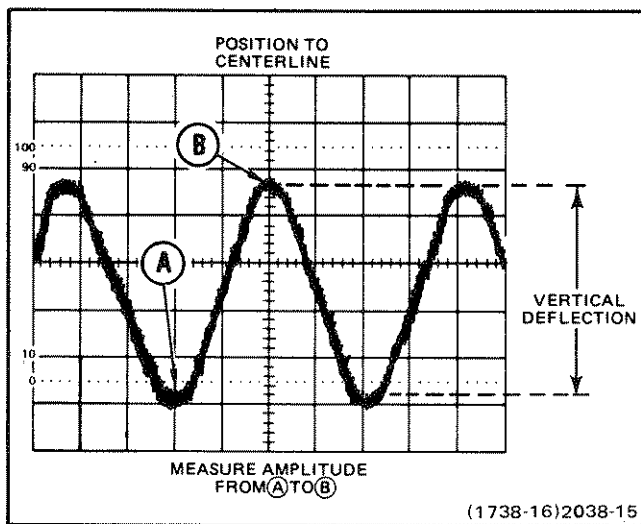

Figure 11. Peak-to-peak waveform voltage.
6. Vertically position the display so that the negative peak of the waveform coincides with one of the horizontal graticule lines (see Figure 11, Point A).
7. Horizontally position the display so that one of the positive peaks coincides with the center vertical graticule line (see Figure 11, Point B).
8. Measure the vertical deflection from peak to peak (see Figure 11, Point A to Point B).
**EXAMPLE:** The measured peak-to-peak vertical deflection is 4.6 divisions (see Figure 11) with a VOLTS/DIV switch setting of 0.5, using a 10X probe.